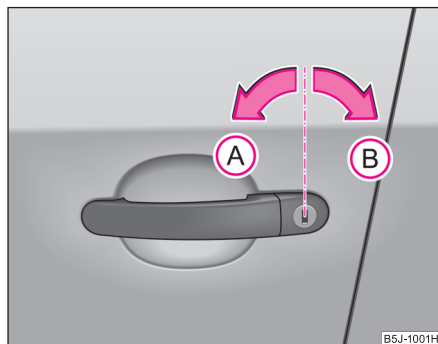

Fig. 22 Turning the key for unlocking and locking the vehicle
- Turn the key in the lock of the driver's door to the left into the opening position **(A)** ⇒ fig. 22.
- Turn the key in the lock of the driver door to the right into the closing position **(B)** ⇒ fig. 22.